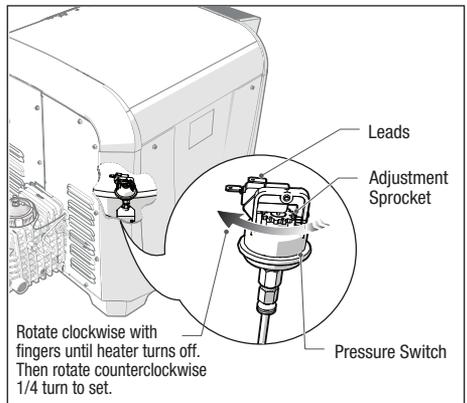

Figure 15. Water Pressure Switch Adjustment
3. Remove the side panel to gain access to the water pressure switch. See *Figure 15*.
8. Slowly turn the pressure switch adjustment sprocket counterclockwise one-quarter turn. The heater should come back on. See Figure 15.